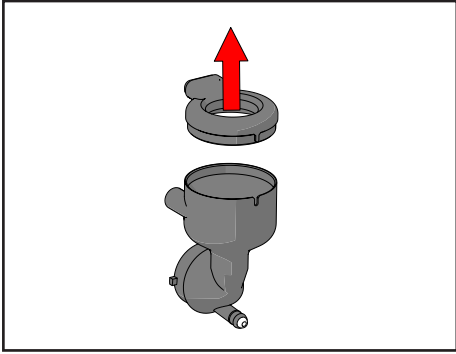

Figure 38.
10. Separate the suction ring from the mixing bowl (see Figure 38).